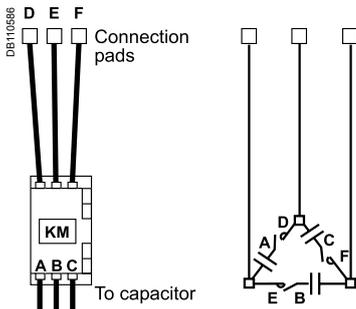

Fig. 35: break the triangle links.
- break the triangle links (Fig. 35)